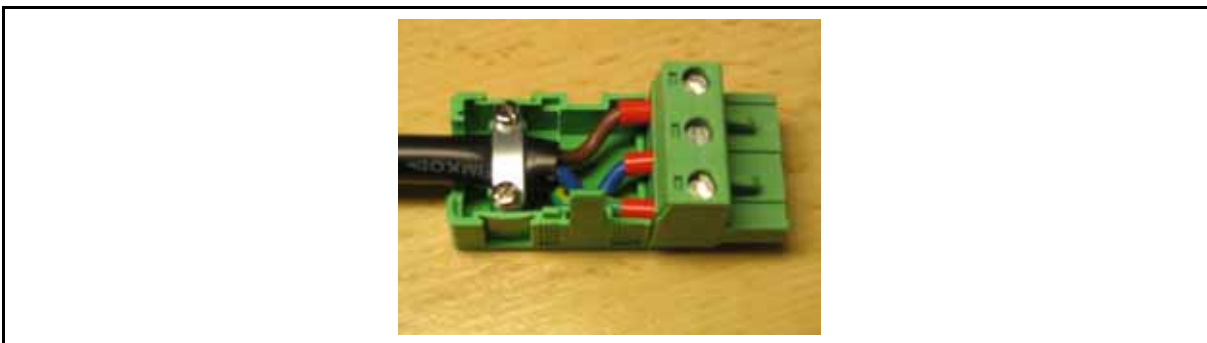

FIGURE 15 BIS: POWER SUPPLY WIRING
- The power supply earth cable must be screwed onto the connector (3 points). (as shown on Figure 15 BIS).
- The full plastic cover must be installed on the power supply connector. (as shown on Figure 15 TER).